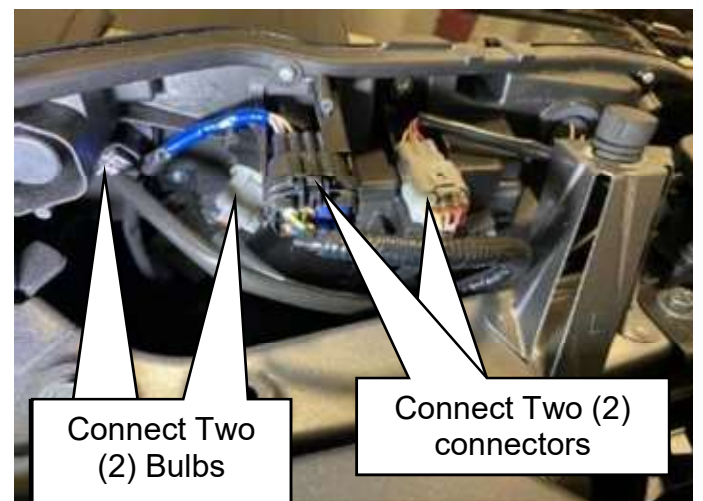

Figure 21
21. Connect the two electrical connectors and two bulb connectors behind the combination lamp. (Figure 21)